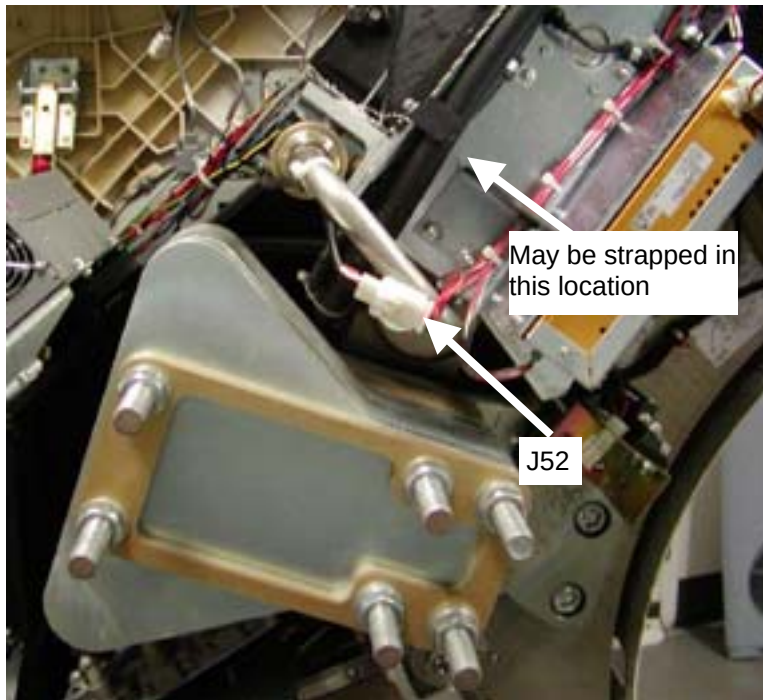

Figure 3 Pump connector J52
7. Locate the pump electrical harness. Disconnect the pump harness connector from the heat exchanger harness connector J52 (see Figure 3) on the front side of the gantry. This connector may be found ty-wrapped on the pump tube or front side of the heat exchanger.